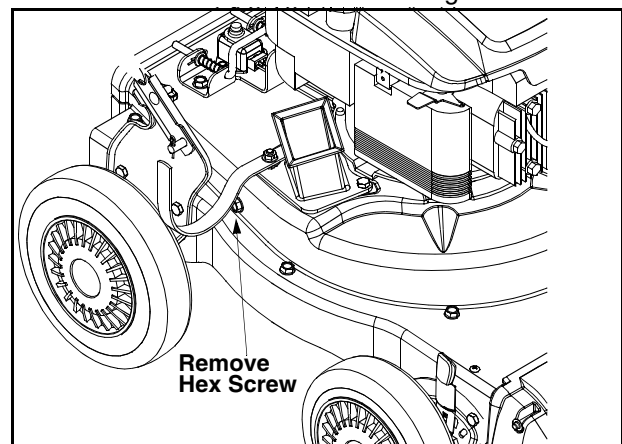

Figure 16
- Remove hex screw on right side of unit that attaches to the flail screen. See Figure 16.